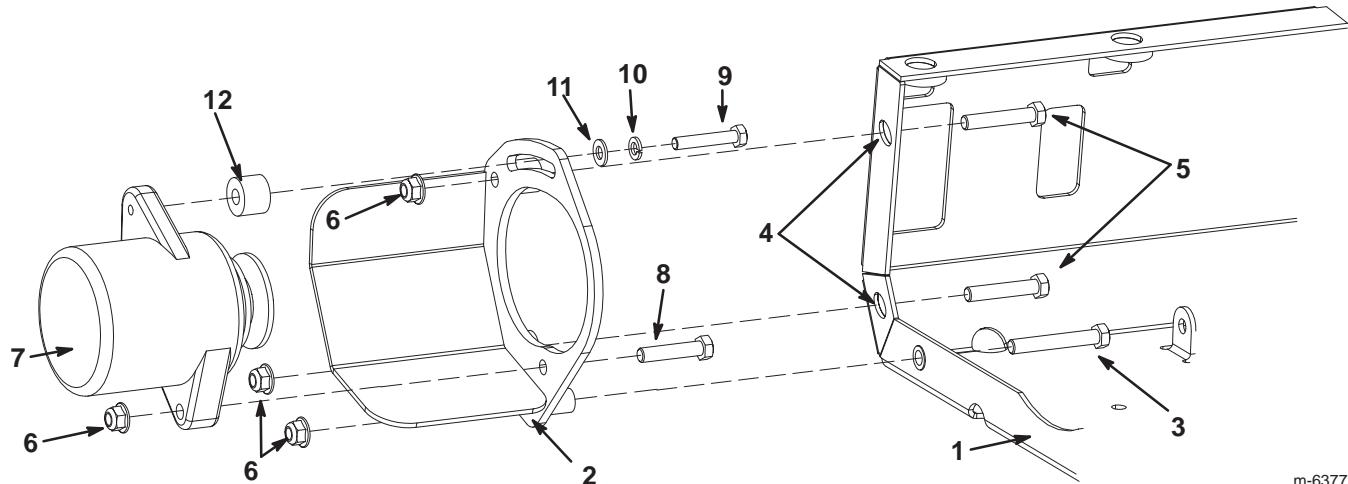

Figure 3
- Bolt the alternator bracket to the left side of the engine mounting pan (Fig. 3), using a bolt (3/8 x 2-1/2 inches) and a flange nut (3/8 inch). Ensure that the bracket lines up with the side of the frame.
- Using the bracket as a template, mark 2 hole locations on the flange of the engine mounting pan (Fig. 3).
- Remove the alternator bracket and fasteners and drill 2 holes (7/16 inch dia) through the engine mounting pan at the marked locations (Fig. 3).
- Install the bracket on the pan (Fig. 3) using 2 bolts (3/8 x 2 inches) and 2 flange nuts (3/8 inch) and the fasteners you removed in step 3.
- Secure the thick flange on the alternator to the bottom hole on the bracket (Fig. 3) using a bolt (3/8 x 1-3/4 inches) and a flange nut (3/8 inch).
- Secure the thin flange with the threaded hole to the adjustment slot in the bracket (Fig. 3) using a bolt (M8 x 45 mm), a lock washer (5/16 inch), a washer (11/32 inch), and a spacer. Do not fully tighten the fasteners.